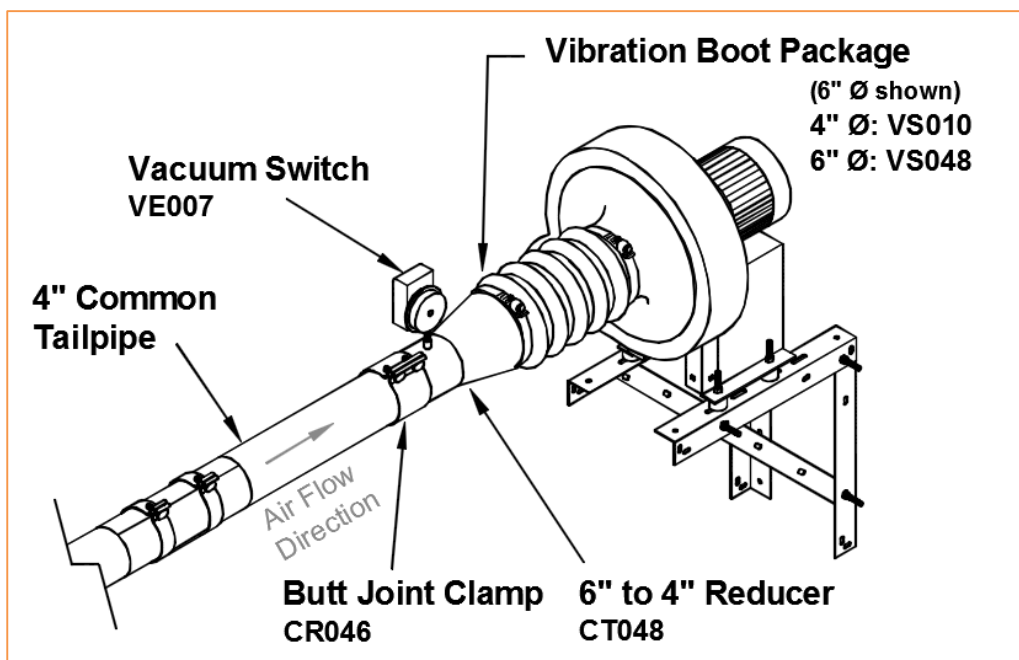

Figure 36: Tailpipe to Vacuum Pump Connections
2. Install the Flexible Boot Connector between the Reducer and Pump Inlet, to reduce vibration and noise transmission, using a gear clamp at either end, as shown in Figure 36.
6. Mount/position the Vacuum Switch onto the Radiant System as shown in Figure 36. Connect the Vacuum Switch to the Vacuum Pump and the control system as shown in the sample diagrams in the following pages.